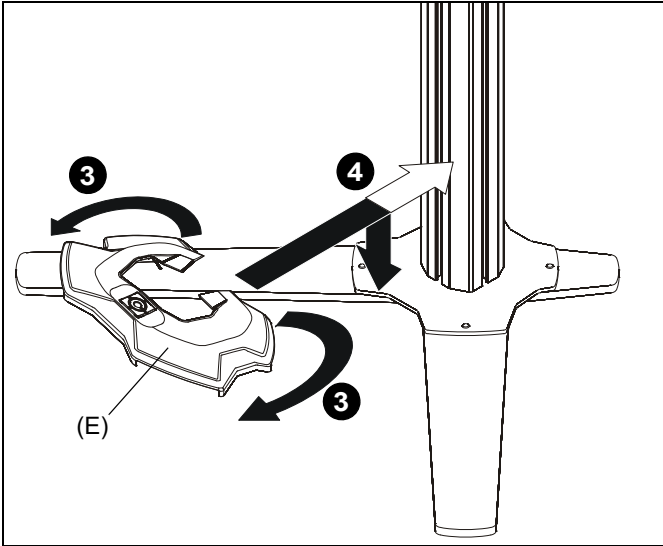

Figure 4
- Carefully manipulate base cover (E) to create an opening large enough to wrap cover around array column. (See Figure 4)
- Wrap base cover around column and slide it down until base cover fits securely onto table top base (C). (See Figure 4)